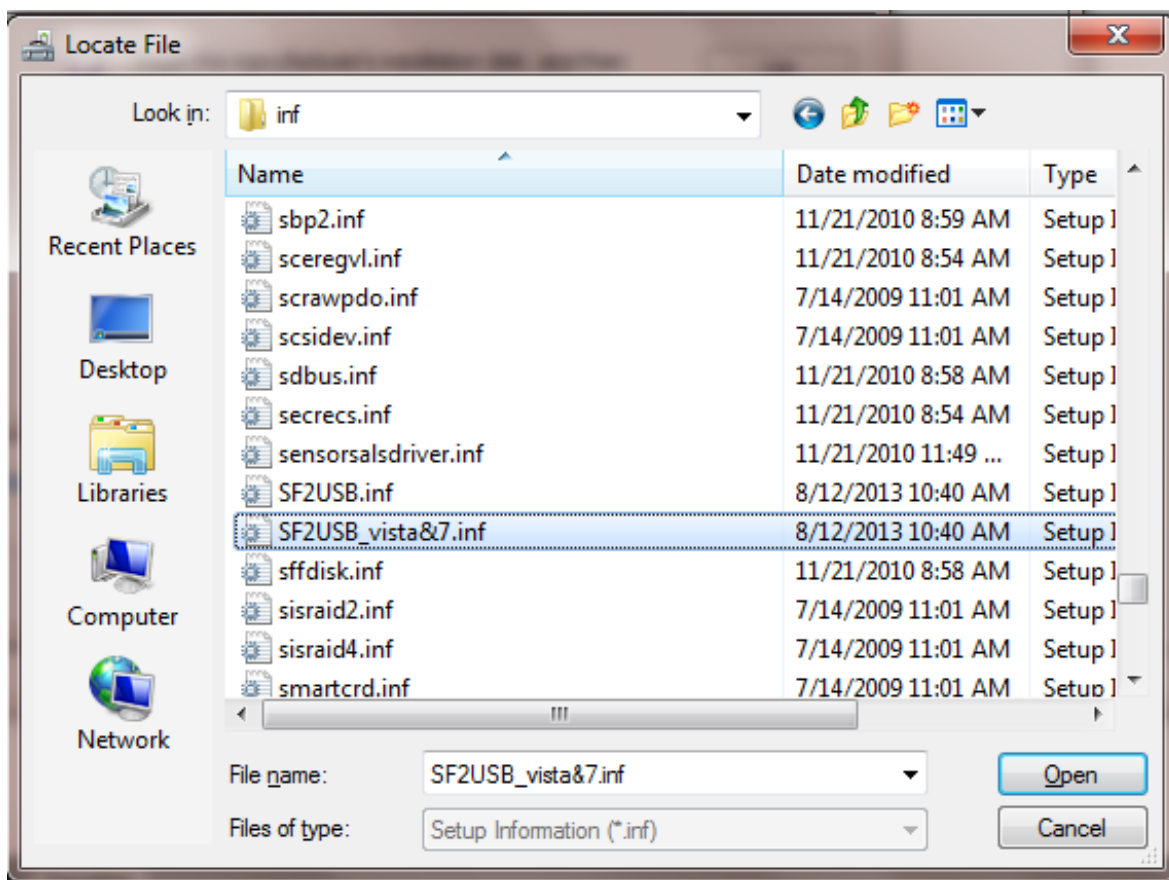

Figure 12 • Selecting the Installation File
12. Select **SF2USB_vista&7.inf** for Window7/Vista system and click **Open** as shown in Figure 12.